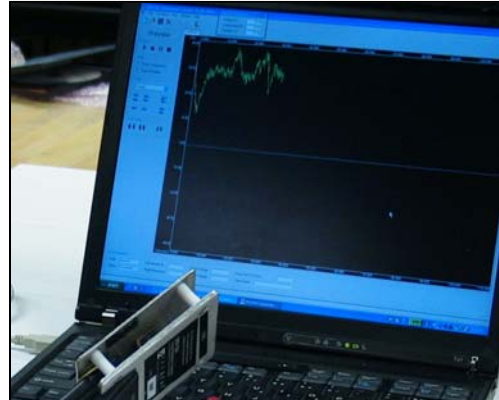

Figure 49: Recording Offset Voltage
- b. Note the actual offset voltage as displayed on the CPM and on the computer screen (Figure 49).